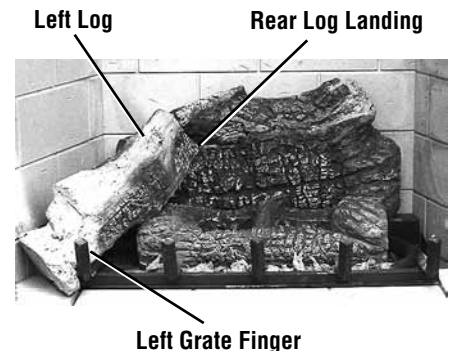

Figure 13
Step 3. Place the left log as shown in **Figure 13**, on the landing of the rear log. Make sure the landing on the front end of the log is resting on the first left finger of the grate, as shown in **Figure 13**.